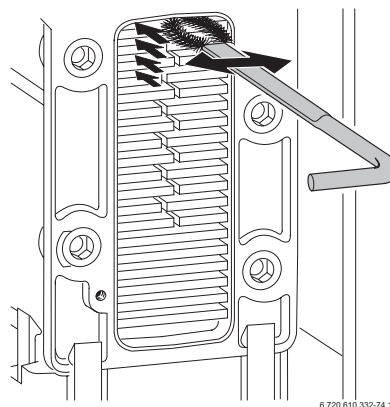

Fig. 54
- ▶ Clean the heat exchanger from top to bottom using the brush. Refer to fig. 54.